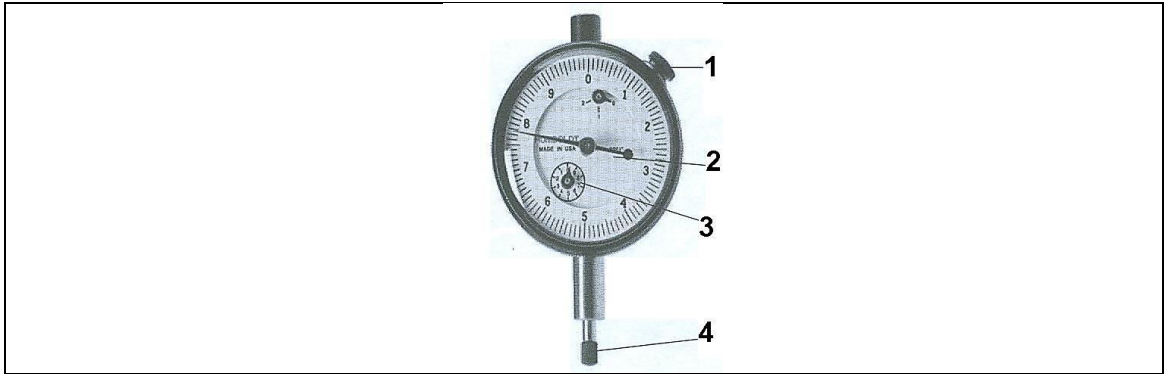

FIGURE 3.1
3.1 FIGURE 3.1 below shows a precision measuring tool.
3.1.1 Identify the measuring tool represented in FIGURE 3.1 above. (1)